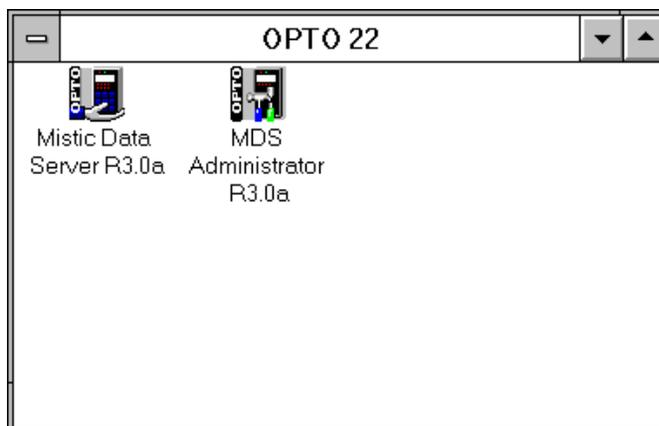

Figure 2-2: Opto 22 Program Group
6. When installation is complete, the program group "Opto 22" is displayed and contains two icons as shown in Figure 2-2.